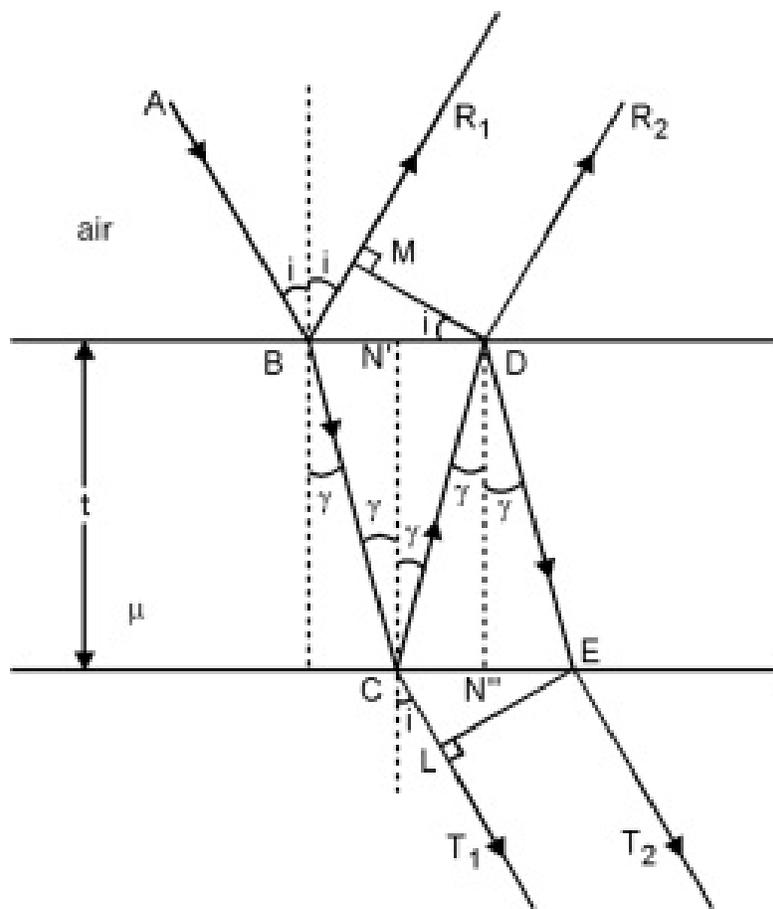

Fig. 1.3.1 : Interference in thin films
- Consider a ray AB of monochromatic light of wavelength λ from an extended source incident at B, on the upper surface of a parallel sided thin film of thickness t and refractive index μ as shown in Fig. 1.3.1.
- From Fig. 1.3.1 we have $BC = CD = \frac{t}{\cos r}$